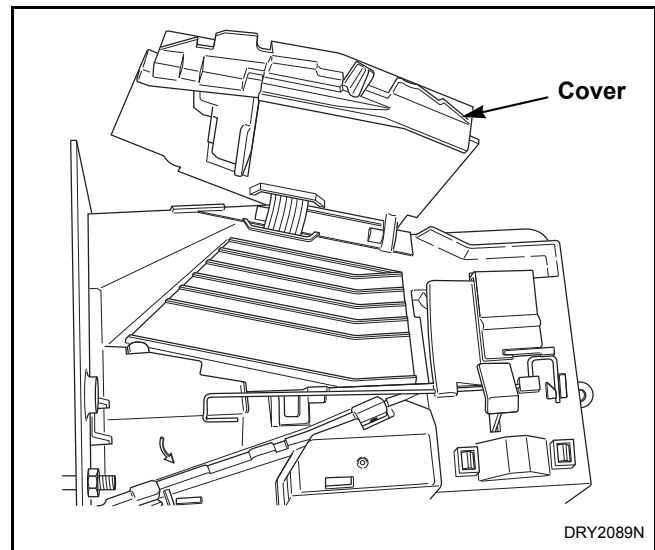

Figure 24
- Open cover for coin drop. Refer to *Figure 24*.